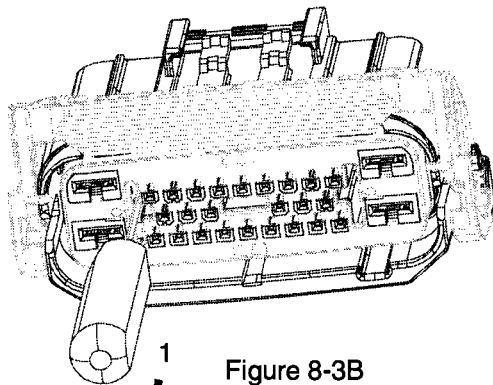

Figure 8-3B
2. Pull the hook tool in the direction of arrow '1' (see Figure 8-3B).